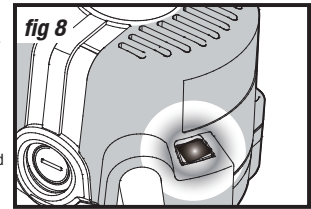

fig 8
**"Live tool indicator" light (fig 8)**